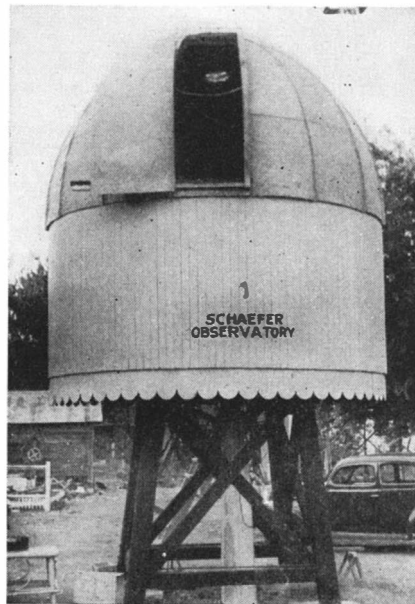

Figure 2: Schaefer's observatory
**L**IKE the telescopes themselves, housings for them afford an infinite opportunity for the maker's desire for variety. Figure 2 is a housing of the dome type made by Edison T. Schaefer, Schulenburg, Tex. The concrete pier on which the telescope rests is visible in the photograph, within the wooden fabrication which supports the floor, walls, and dome. The latter has a 30" slot.